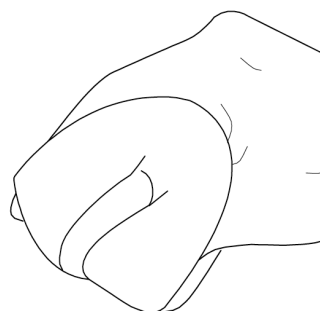

Figure 13: Squeeze Air Filter
6. Rinse in clean water by submerging the air filter element in fresh water and applying a slow squeezing action (see Figure 13).